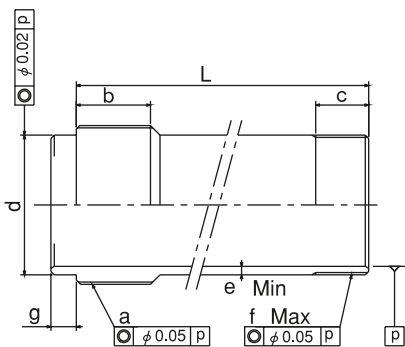

Fig. 13
The dimension L in Fig. 13 is determined from the distance A between the cylinder adapter and the back plate.
- Keep the dimension e and the dimension f in Fig. 13 for the draw pipe and a material with the tensile strength 380MPa (38kgf/mm²) or more must be used.